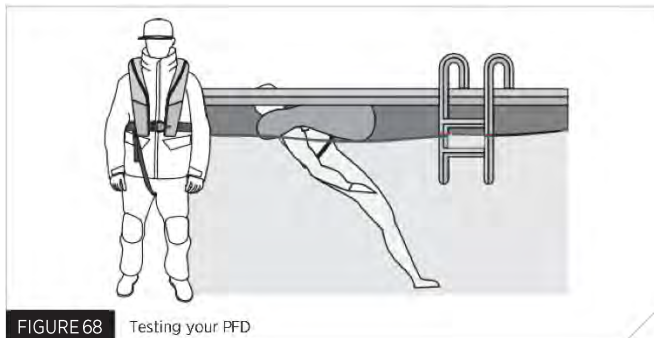

FIGURE 68 Testing your PFD
Your PFD should be tested whilst wearing foul weather or offshore clothing. Some foul weather or offshore clothing can trap air which may affect the performance of the PFD (Fig. 68).
A4. See if the PFD will float you on your back or just slightly back of vertical. In a relaxed floating position, verify that your mouth is well above the water's surface. Note the effect of where you hold your legs on how you float (Fig. 68).
M5. See if the PFD will float you on your back or just slightly back of vertical. In a relaxed floating position, verify that your mouth is well above the water's surface. Note the effect of where you hold your legs on how you float (Fig. 68).
- 06.** See if the PFD will float you on your back or just slightly back of vertical. In a relaxed floating position, verify that your mouth is well above the water's surface. Note the effect of where you hold your legs on how you float (Fig. 68).